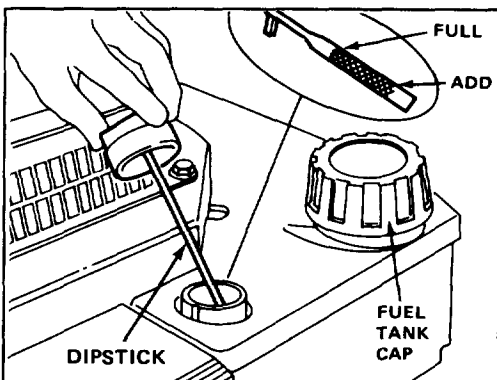

Figure 5
Before each use, assure oil level is between ADD and FULL marks as shown on dipstick (Fig. 5). Add oil if level is low.
3. Wipe dipstick and insert it into filler neck. Rotate cap 1/4 turn. Remove dipstick and check level of oil (Fig. 5). If level is low, add only enough oil to raise level to FULL mark on dipstick. **DO NOT FILL ABOVE FULL MARK BECAUSE ENGINE COULD BE DAMAGED WHEN STARTED. POUR OIL SLOWLY.**
1. Clean around fuel tank cap and remove cap from tank (Fig. 5). Using unleaded gasoline, fill fuel tank to within 1/4 to 1/2 inch (6 to 13 mm) from top of tank, not into filler neck. This space is for expansion of fuel. Do not fill tank full.